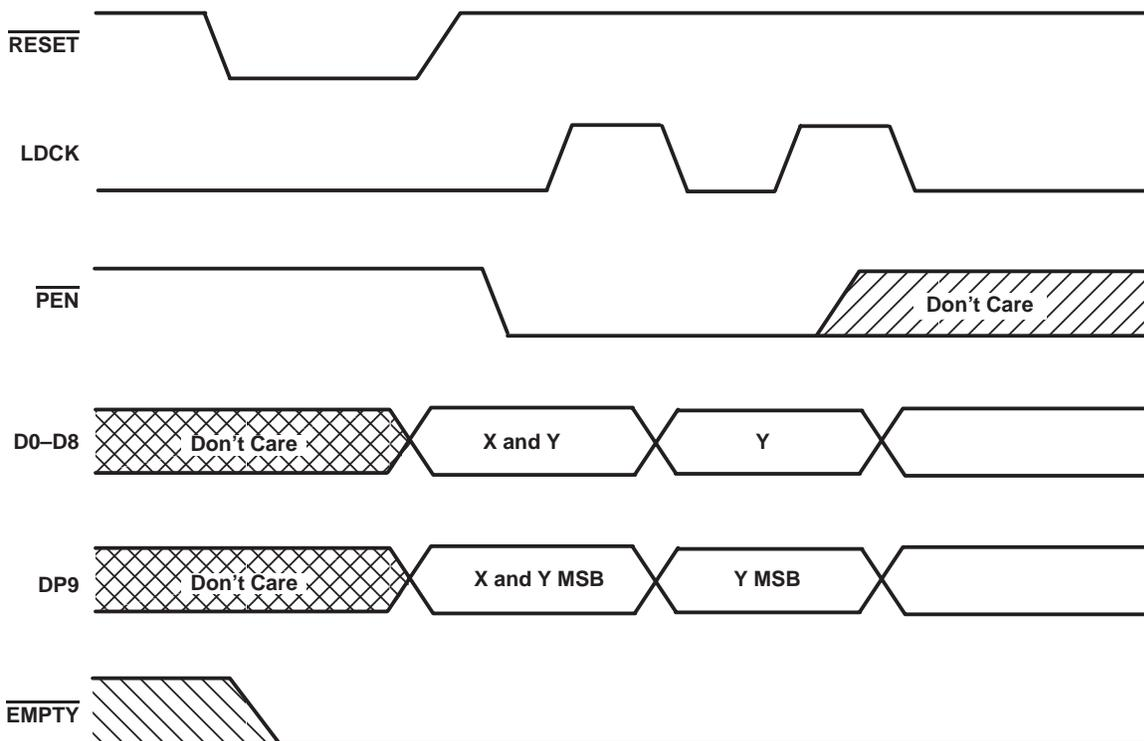

Figure 1. Programming X and Y Separately
To program the offset values, program enable (\overline{PEN}) can be brought low after reset only when LDCK is low. On the following low-to-high transition of LDCK, the binary value on D0–D8 and DP9 is stored as the almost-empty offset value (X) and the almost-full offset value (Y). Holding \overline{PEN} low for another low-to-high transition of LDCK reprograms Y to the binary value on D0–D8 and DP9 at the time of the second LDCK low-to-high transition. Writes to the FIFO memory are disabled while the offsets are programmed. A maximum value of 1023 can be programmed for either X or Y (see Figure 1). To use the default values of $X = Y = 256$, \overline{PEN} must be held high.
timing requirements over recommended operating conditions (unless otherwise noted) (see Figures 1 through 3)